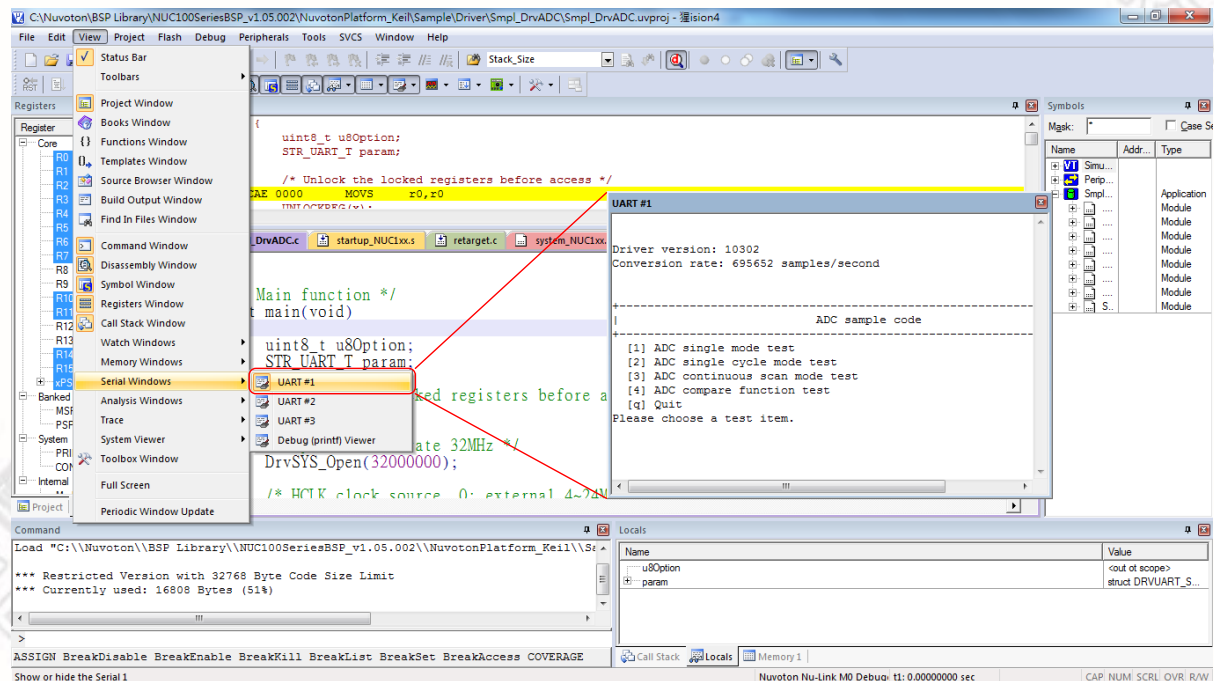

Figure 3-4 Semihost Options in Keil RVMDK Debug Mode
When using the Semihost function, the message of the NuMicro™ Family microcontroller can be output through UART to the debug window by the Nu-Link Adapter. That is, the message is output without the GPIO. Figure 3-4 shows the debug messages in the “UART #1” form, which are the messages output by the Nu-Link Adapter.
Step 4: In Debug mode, invoke **View** → **Serial Windows** → **UART #1**, as shown in Figure 3-4.